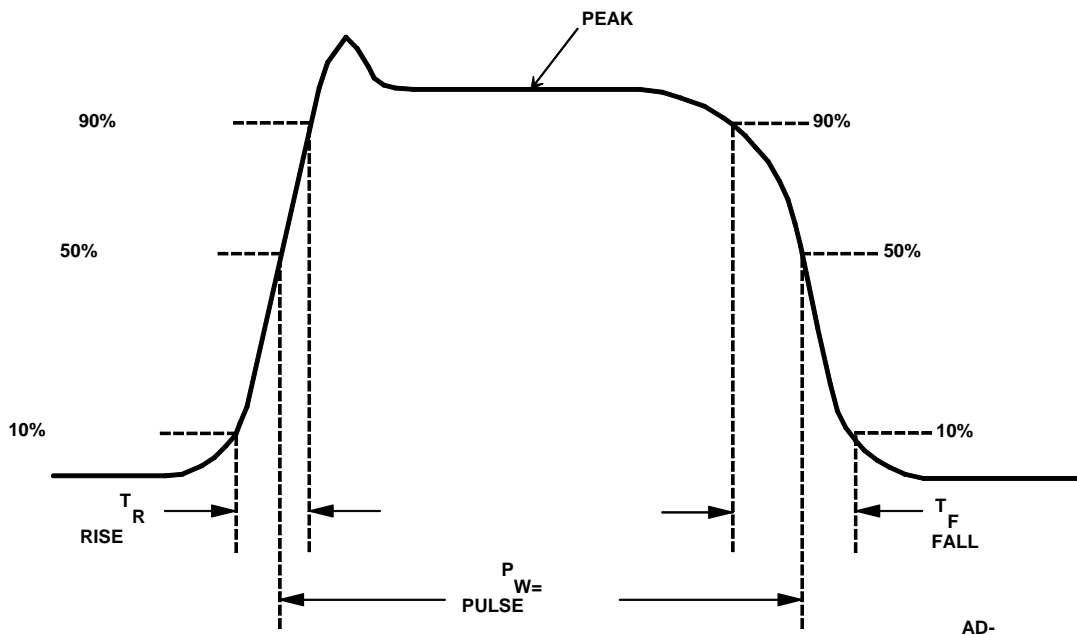

Figure 2-1: Basic Pulse Measurements
- Figure 2-1 shows the basic characteristics which define a pulse.